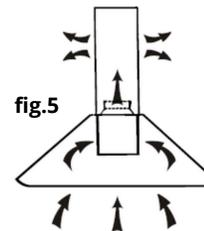

fig.5
1. If you do not have an outlet to the outside, exhaust pipe is not required, and the installation is similar to the one show in section "Installation (Vent outside)". Activated carbon filter can be used to trap odours (see fig.5 below)